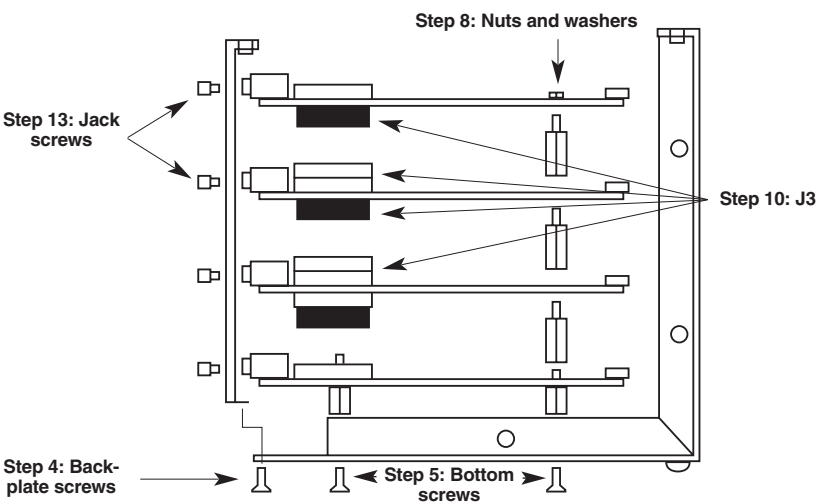
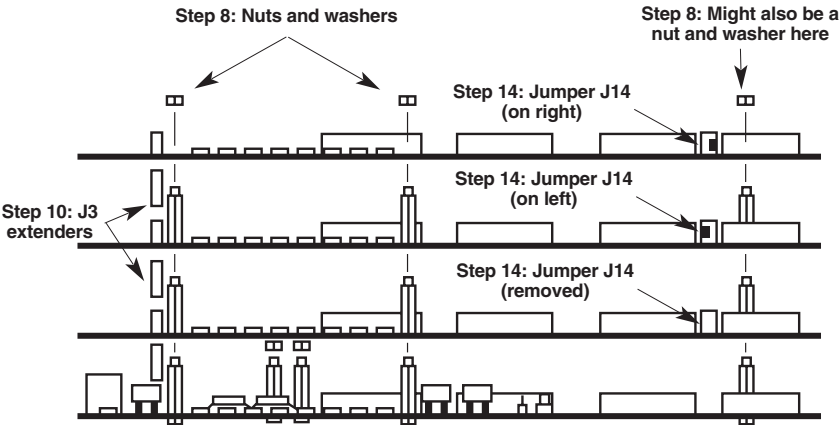

Figure 2. Exploded left-side view of a ServSwitch or ServSwitch Ultra with the maximum number of ports installed.
Figure 4. Exploded front view of a ServSwitch's or ServSwitch Ultra's PCB stack (16-port unit shown).
4. Unscrew and remove the three countersunk screws on the bottom panel that fasten the back panel to the bottom panel. See Figure 2 on the next page.
5. Unscrew and remove the three countersunk screws on the Switch's bottom panel that fasten the Switch's PCB(s) (printed circuit board[s]) to the panel. See Figure 2 on the next page.
8. Unscrew and remove the nuts and washers from the screw-ends of the standoffs that poke through the topmost PCB. There will definitely be two of these standoffs at the front of the PCB; there might also be one on the narrow right-hand end. See Figure 2 on the previous page, Figure 4 on the next page, and Figure 5 on page 9.
10. You should have received two or three new standoffs with your Expansion Board. Screw these into the screw-ends of the existing standoffs that you exposed in step 8. You should also have received an extender (spacer) for the J3 connector on the PCB that will be below the Expansion Board (see Figure 2 on the previous page, Figure 4 on the next page, and Figure 5 on page 9); plug this extender into the J3 connector, being careful not to bend the extender's pins.
11. Plug the 4-Port Expansion Board into the J3 extender you just attached, being extremely careful not to bend the Board's pins (see Figure 2 on the previous page and Figure 5 on page 9). The new standoffs' screw-ends should poke through the appropriate holes on the Board, and the Board's DB25 connectors should fit in the CPU-port slots you exposed in step 7.
13. Fasten the Board to the back panel by screwing the jack screws you removed in step 9 back in. (See Figure 2 on the previous page.)
14. Make sure that port-numbering jumper J14 (see Figure 4 on the next page and Figure 5 on page 9) is set correctly on all of your unit's "slave boards" (all the boards in the PCB stack except the bottommost main board). On the second board from the bottom, you'll see that J14 has been *removed* to identify that board as the location of ports 5 through 8. On the third board from the bottom, J14 should be set to the *left* to identify that board as the location of ports 9 through 12. On the fourth board (if you've installed one), J14 should be set to the *right* to identify that board as the location of ports 13 through 16. If these jumpers aren't set correctly, the Switch will either access the wrong ports, access multiple ports simultaneously, or light LED 3 ("slave-communication error") at power-up.